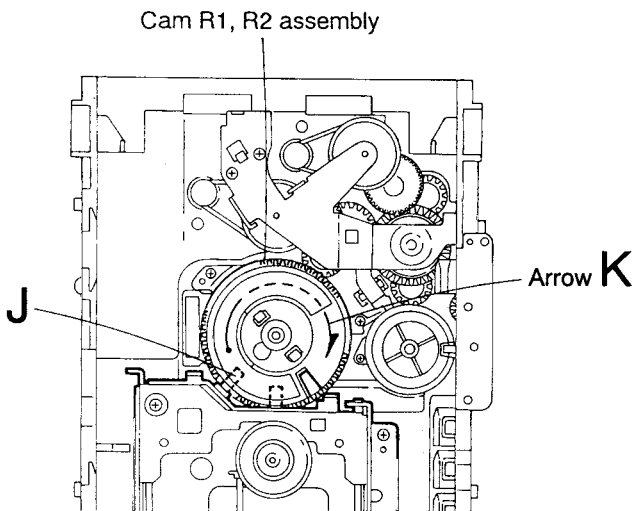

Fig.5-45
Removing the CD mechanism (See Figs. 5-45 and 5-46)
1. For dismounting only the CD mechanism without removing the CD mechanism assembly, align the shaft "J" of the CD mechanism assembly to the position shown in Fig. 5-45 while turning the cam R1 and R2 assembly in the arrow direction "K".